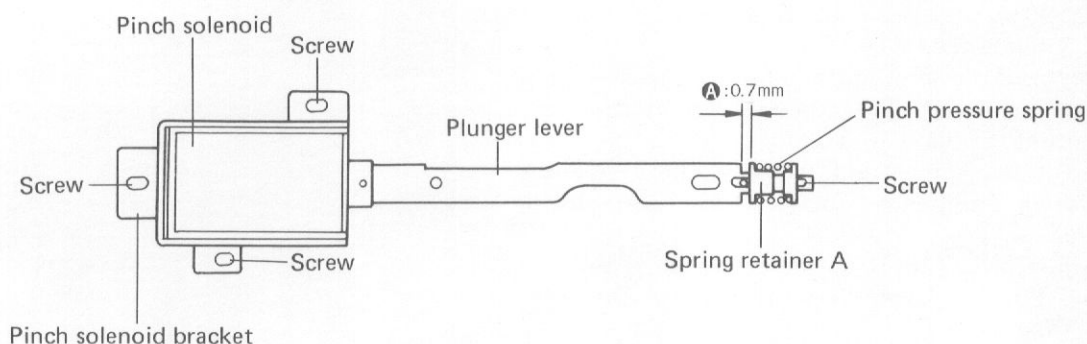

Fig. 27
1. Playback at a set tape speed of 19cm/s and confirm that Δ of the pinch pressure spring shown in Fig. 27 is within 0.7mm.